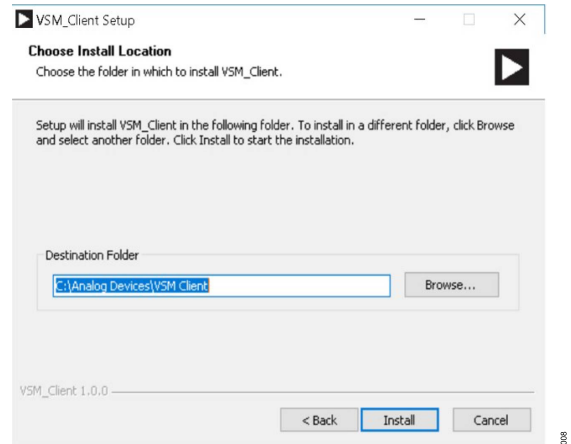

Figure 8. Choose Installation Location
4. Click **Browse...** to choose the installation location and then click **Next >** (see Figure 8).